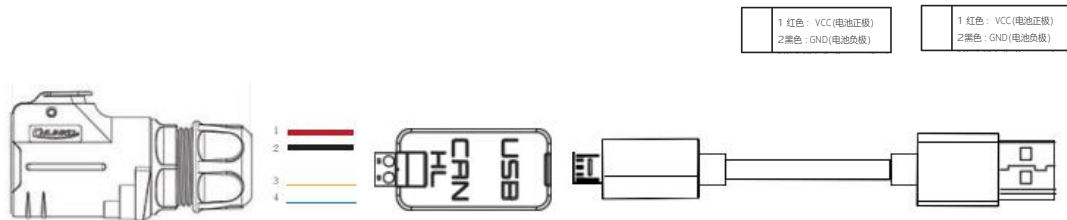

Figure 3.4 CAN Connection Diagram
- Connect the CAN_TO_USB to the usb interface of the notebook. The connection diagram is shown in Figure 3.4.